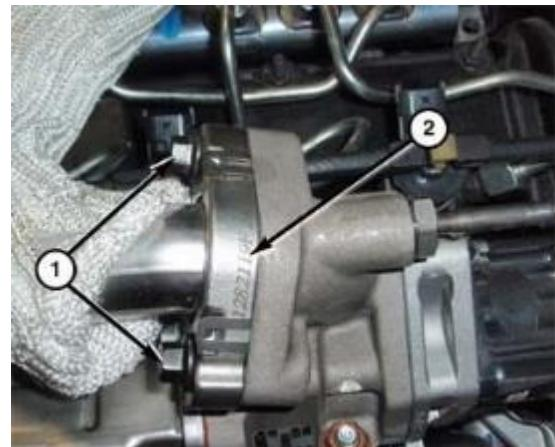
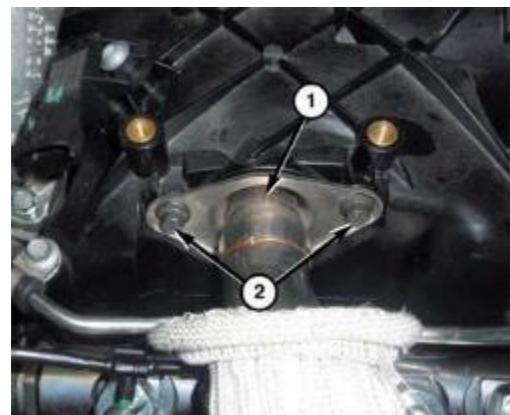

Figure 19 – Upper EGR Tube Bolts
Figure 20 – Upper EGR Tube Bolts at Intake
15. Remove the upper EGR tube bolts (1) (Figure 19) and (2) (Figure 20).